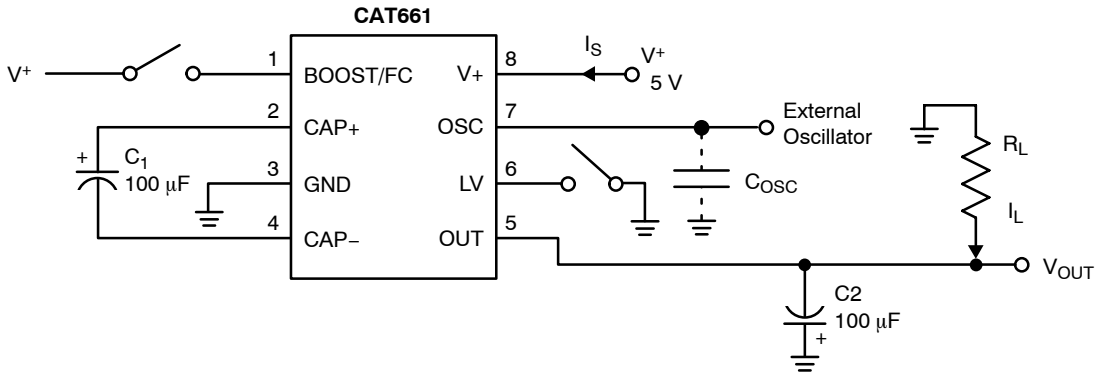

Figure 3. Test Circuit Voltage Inverter
Table 3. ELECTRICAL CHARACTERISTICS (V+ = 5 V, C1 = C2 = 100 µF, Boost/FC = Open, C_{OSC} = 0 pF, and Test Circuit is Figure 3 unless otherwise noted. Temperature is T_A = T_{AMIN} to T_{AMAX} unless otherwise noted.)
- In Figure 3, test circuit electrolytic capacitors C1 and C2 are 100 µF and have 0.2 Ω maximum ESR. Higher ESR levels may reduce efficiency and output voltage.
(Typical characteristic curves are generated using the test circuit in Figure 3. Inverter test conditions are: $V_+ = 5\text{ V}$, $LV = \text{GND}$, $\text{BOOST/FC} = \text{Open}$ and $T_A = 25^\circ\text{C}$ unless otherwise indicated. Note that the charge-pump frequency is one-half the oscillator frequency.)